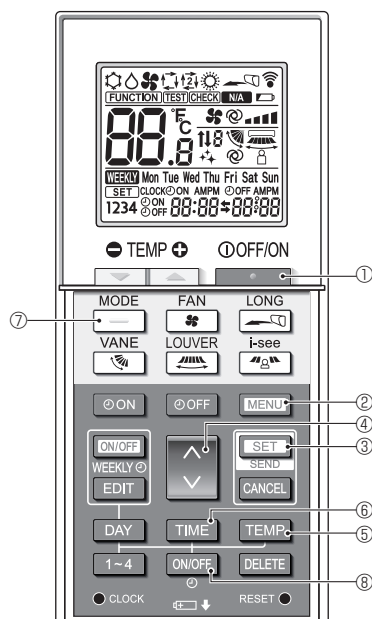
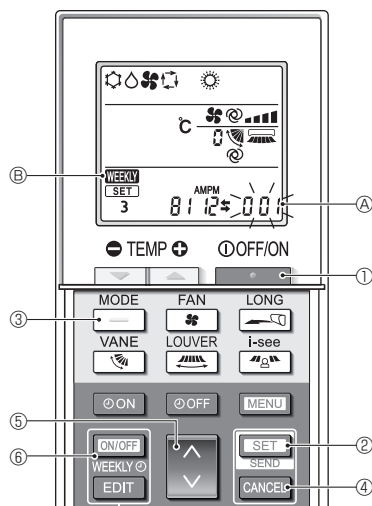

Fig. 6-5
Fig. 6-7
- Press the **STOP** button ① to stop the air conditioner.
- Press the **MENU** button ②.
The Function setting screen will be displayed and the function No. ① will flash. (Fig. 6-5)
- Check that function No. "1" is displayed, and then press the **SET** button ③.
- Press the **ON/OFF** button ⑧.
- Each time the **ON/OFF** button ⑧ is pressed, the setting switches between **on** and **off**.
- Press the **SET** button ③.
- The function No. ① blinks (Fig. 6-5)
6.8.8. How to disable Auto mode operation (Fig. 6-7)
- If the weekly timer is enabled, press the **ON/OFF** button ⑧ to disable the timer. (**WEEKLY** disappears.)
- Press the **SET** button ② for 5 seconds.
- The unit enters the function setting mode. (The group model setting number ① blinks.)
- Press the **DOWN** button ④.
- Completing the settings (Fig. 6-7)